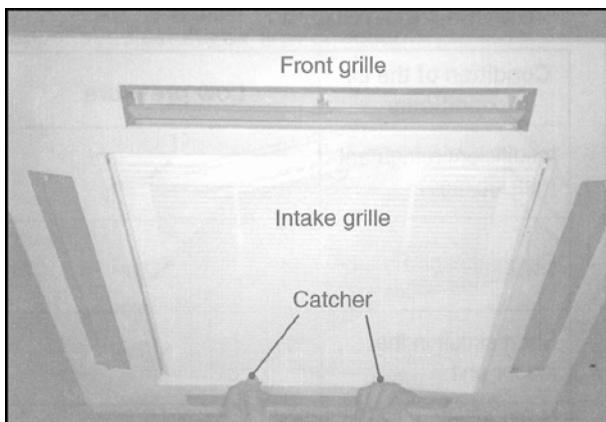

Fig. 1
- Open the intake grille by pressing the catcher (Fig. 1).
1. Open the intake grille by pressing the catcher (Fig. 1 - previous page).